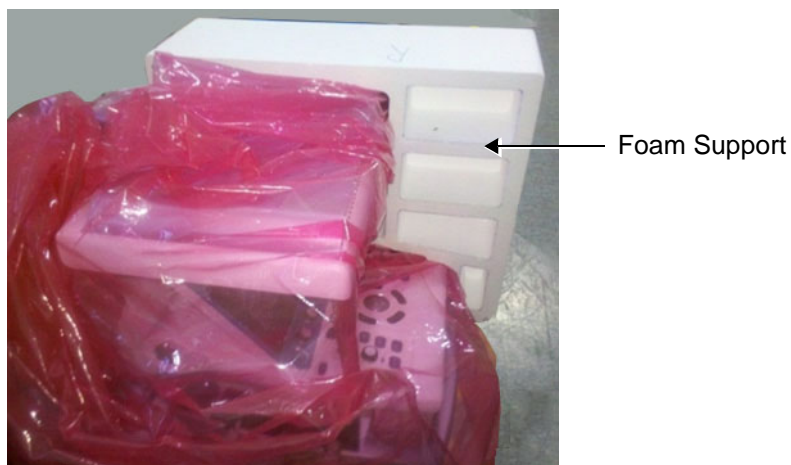

Figure 3-7 Foam Supports Protecting the LCD Screen
7.) Carefully remove the foam supports (from the side and top of the monitor) - see Figure 3-7.